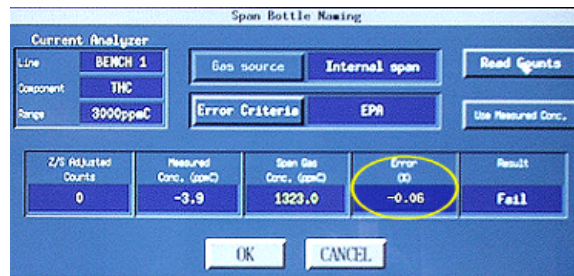

Figure 13
- 118 After the process has been completed the second time, check the value in the “Error (% Pt.)” field in the “Span bottle naming” menu. See the circle in Figure 13.